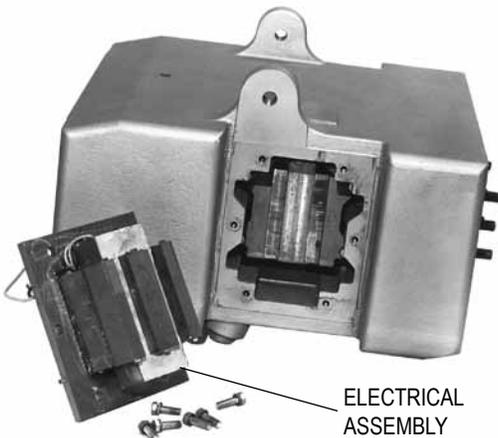

FIGURE 5
3. Lift the electrical assembly out through the side of the body casting (see Figure 5).